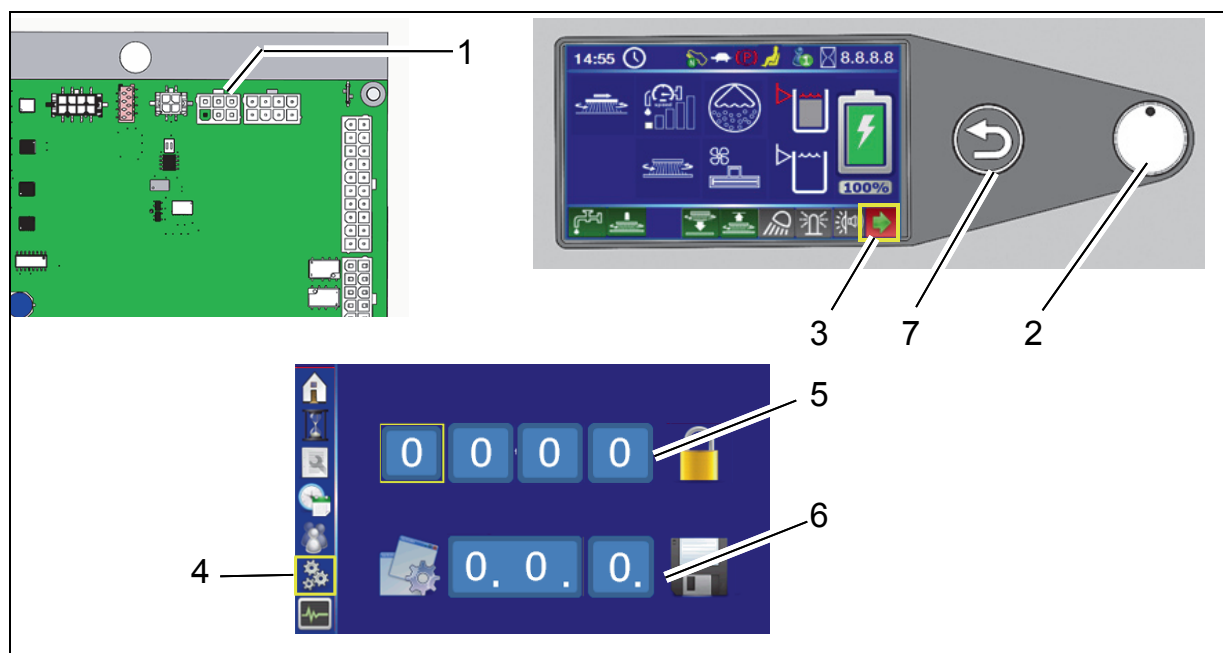

Fig. 4
Connect diagnosis plug to slot X20 of controller A1 (Fig. 4/1).
2. Select the arrow softkey (Fig. 4/3) on the control panel using the turn-push knob (DDS) (Fig. 4/2) and press to access the sub-menu.
3. Select the configuration menu in the sub-menu (Fig. 4/4).
4. Enter the 4-digit code in the configuration menu at the top (Fig. 4/5):
5. Select the value of the option under (Fig. 4/6) in the configuration menu and save by pressing the DDS. After confirmation of the final digit, OK? appears. Press the DDS again to save the value. The saved value is now displayed in green. If the value is not to be saved, exit the menu using the return button (Fig. 4/7).